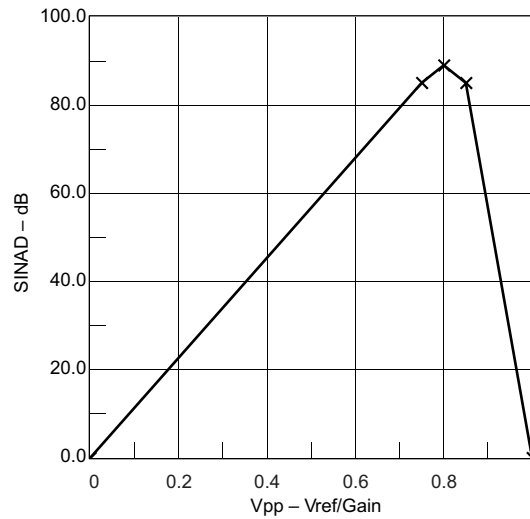

Figure 5-18. SINAD vs V_{PP}
(1) The following voltages were applied to the SD24_B inputs: $V_{I,A+}(t) = 0$ V + $V_{PP} / 2 \times \sin(2\pi \times f_{IN} \times t)$ and $V_{I,A-}(t) = 0$ V – $V_{PP} / 2 \times \sin(2\pi \times f_{IN} \times t)$ resulting in a differential voltage of $V_{ID} = V_{I,A+}(t) - V_{I,A-}(t) = V_{PP} \times \sin(2\pi \times f_{IN} \times t)$ with V_{PP} being selected as the maximum value allowed for a given range (according to SD24_B recommended operating conditions) (also see Figure 5-18).